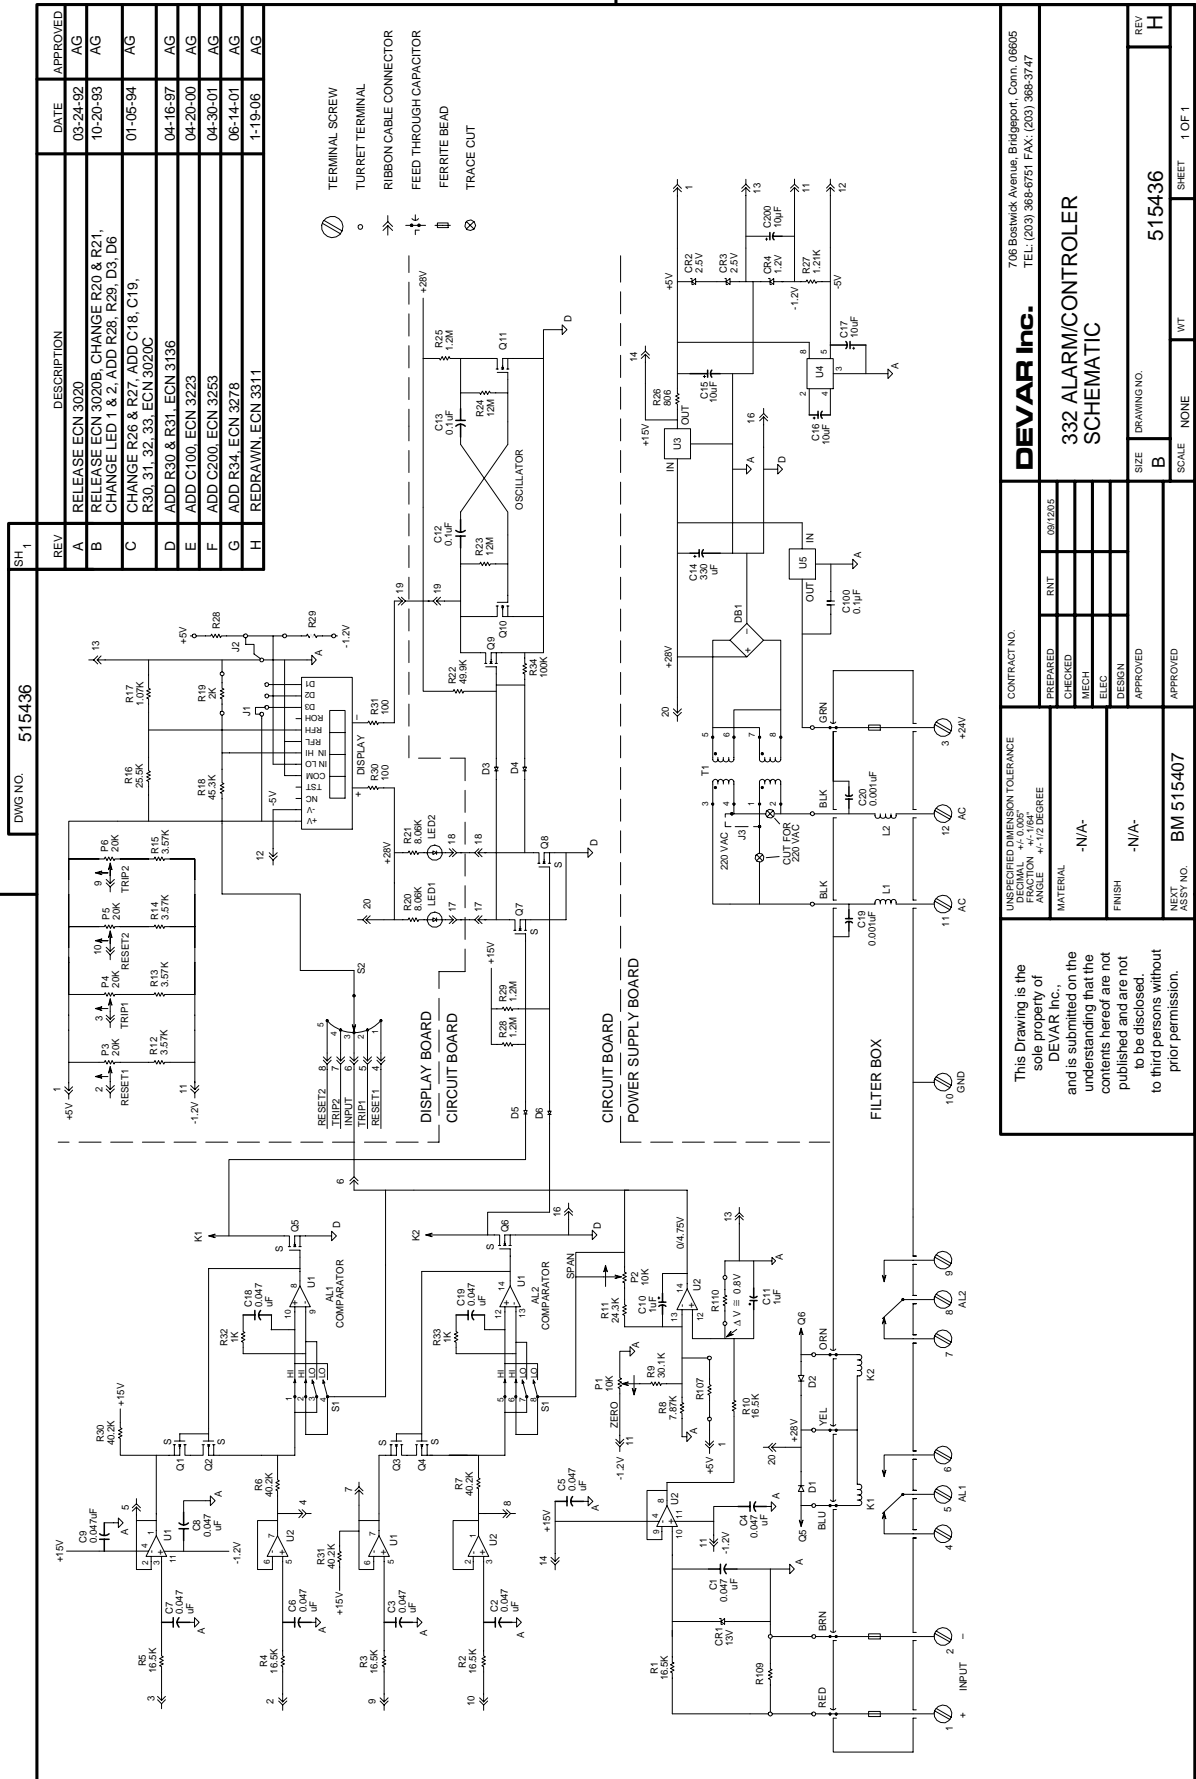
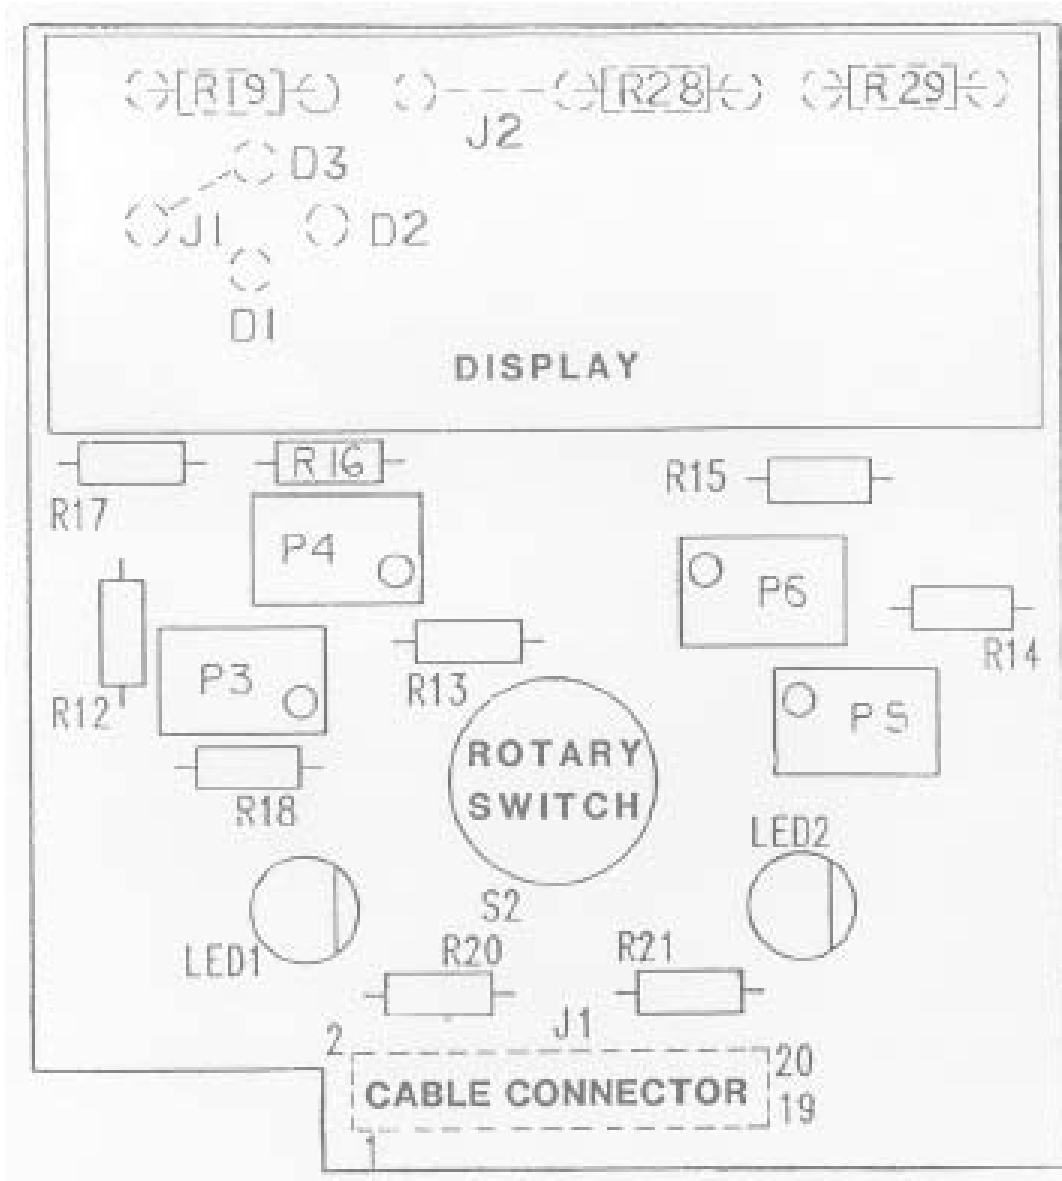
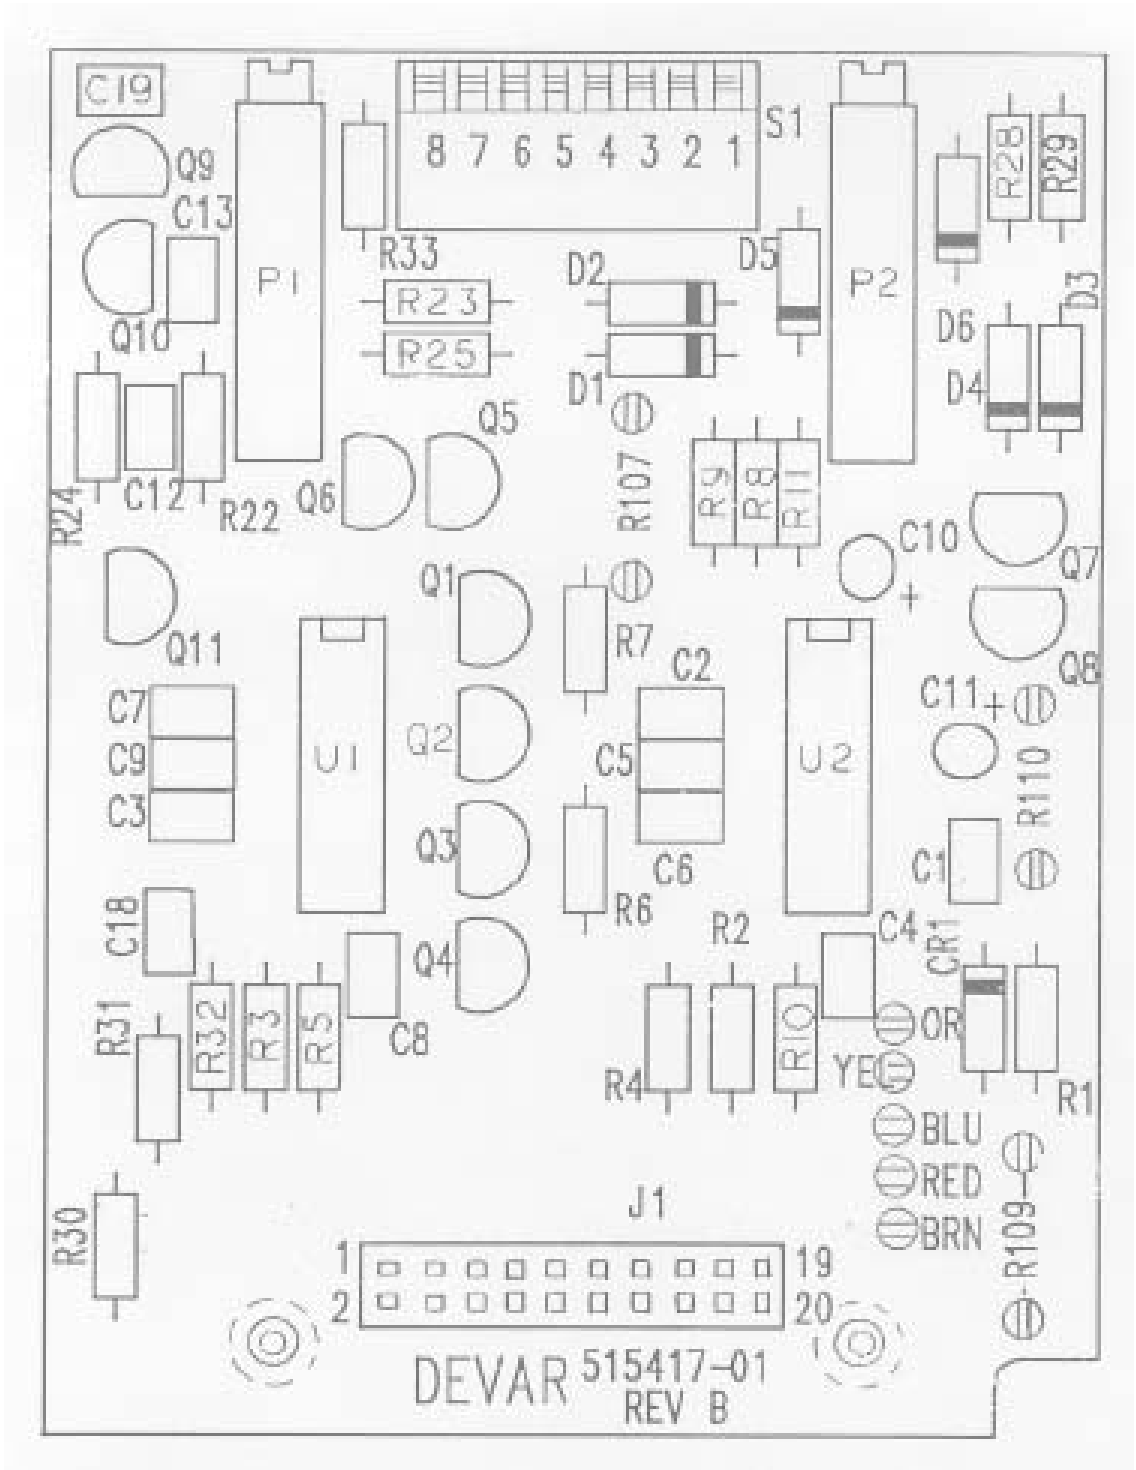
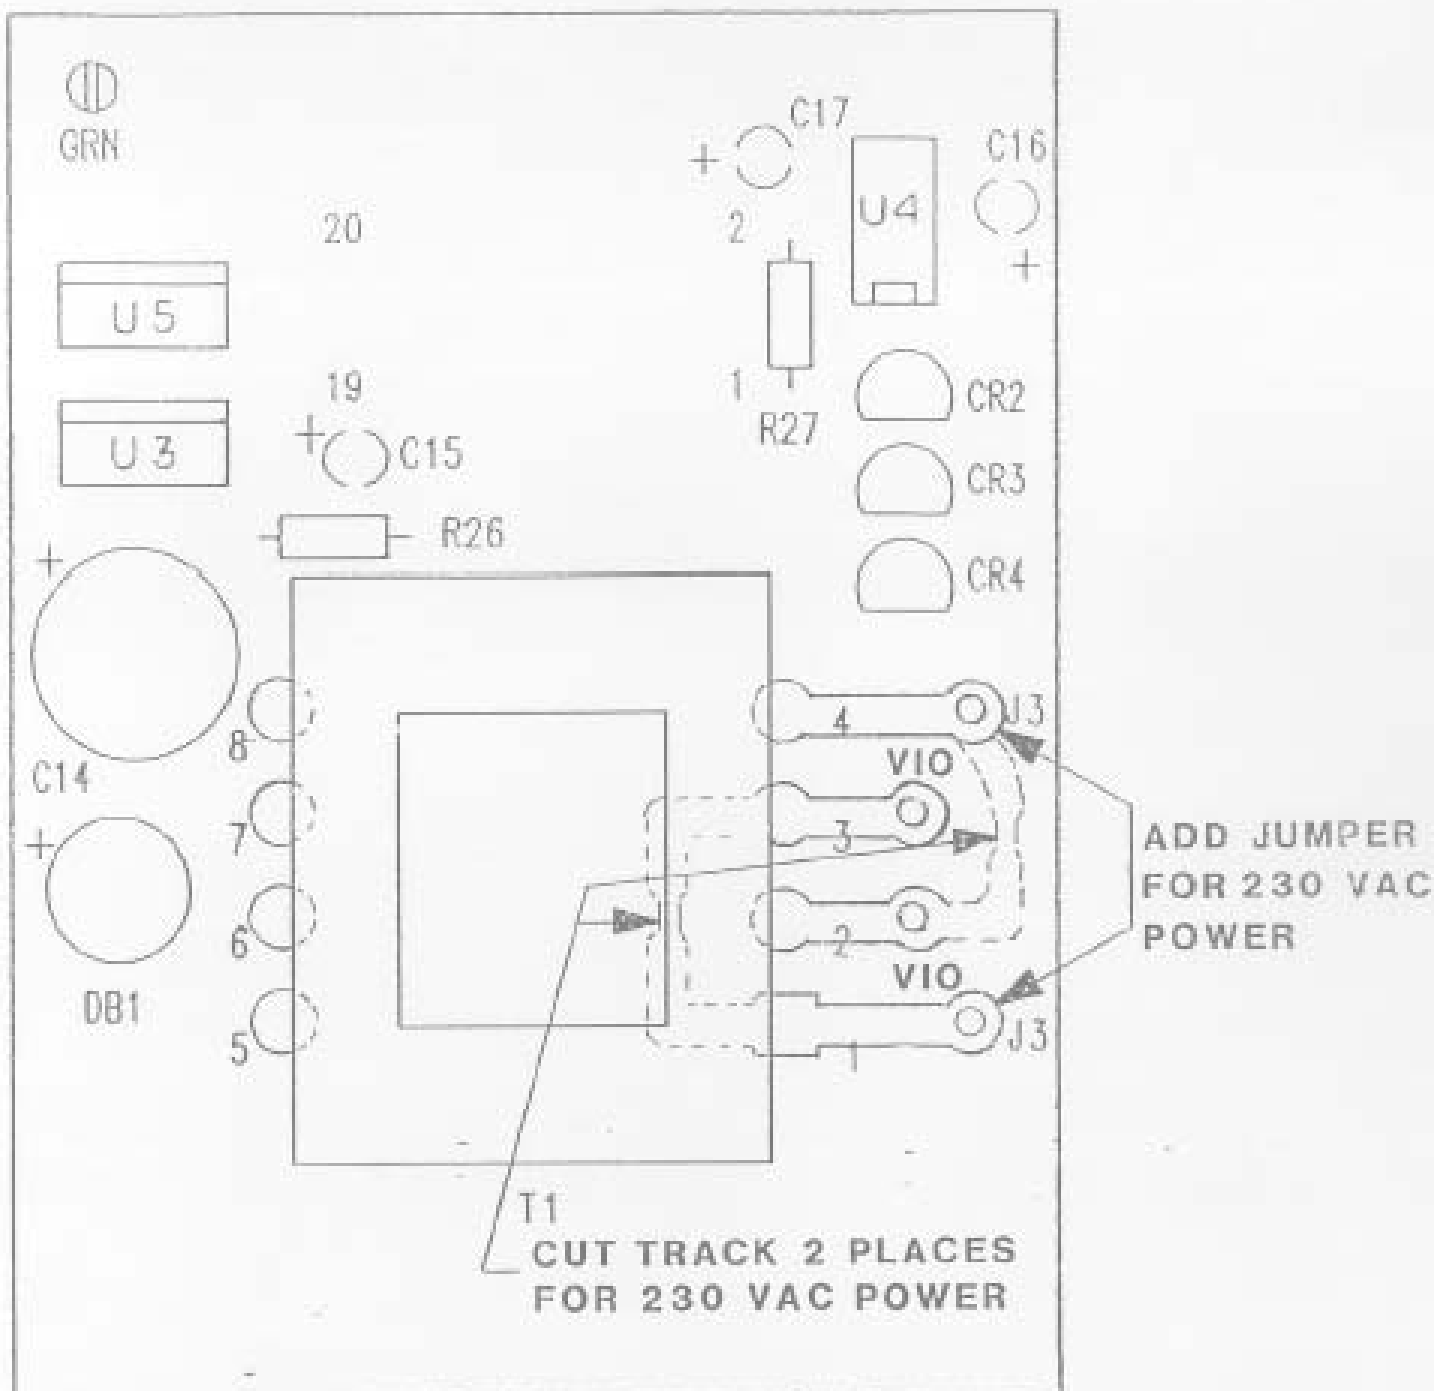

Figure 7.1 - Schematic
Figure 7.2 - Component Location, Display Board
Figure 7.3 - Component Location, Circuit Board
Figure 7.4 - Component Location, Power Supply
The 332 has been factory configured so that if either channel goes into alarm the display will begin to flash. The display will continue to flash as long as one of the channels remains in the alarm condition. If this feature is not desired it can be disabled by removing diodes D3 and D4 from the PC board. See figure 7.3 for the location of diodes D3 and D4. An alarm condition is also indicated by two red LEDs, one for channel A and one for channel B. These LEDs will light on alarm. The operation of the LEDs is not affected by disabling the flashing display.
The 332 Alarm/Controller is calibrated to display 00.0 to 100.0 for any standard input range. To change the input from one standard range to another standard range, the proper values for resistors R107, R109 and R110 must be selected. The value of these resistors, for standard input ranges, is listed in figure 5.1. The location of these resistors can be found in figure 7.3.
Once the proper calibrating resistors have been installed, turn the selector switch to the **Input** position and apply an input signal to the unit. Adjust the span and zero pots (see fig. 7.3) until the display is calibrated to read 00.0 to 100.0.
The 332 Alarm/Controller can also be calibrated for nonstandard input ranges. To do this the values of resistors R107, R109, and R110 must be calculated so that the new input range will produce an output voltage of 0 to 4.75 V at pin 14 of amplifier U2. See figure 7.1 for the circuit schematic and figure 7.3 for the location of amplifier U2. Once the resistors have been installed, an input signal must be applied and the span and zero pots adjusted, as described in paragraph 5.2.
The display of the 332 Alarm/Controller can also be calibrated to read directly in engineering units. To do this requires the removal of jumper J2, the selection of resistors R28 and R29, and the positioning of jumper J1, for decimal point selection. These components are located on turret terminals on the PC board, behind the display (see fig. 7.2).
To recalibrate the display, the value of resistors R28 and R29 can be calculated by following the steps outlined in figure 5.2. See figure 5.3 for decimal point selection. Once these resistors and jumpers have been installed the unit must be calibrated. To do this, apply a signal to the input terminals of the 332. Input the bottom of the range and adjust the zero pot for the proper display reading, then input the top of the range and adjust the span pot. Repeat this procedure until the display is calibrated. See figure 7.3 for the location of the span and zero pots.
To change the power supply operation from 115 to 230 VAC, a jumper "J3" must be added on the power supply board and the track must be cut in two places. Reference figure 7.1 for the circuit schematic and figure 7.4 for the location of the jumper and the cut tracks.
- d. To troubleshoot the circuit, refer to the schematic, figure 7.1 and component location drawings, figures 7.2, 7.3, and 7.4.